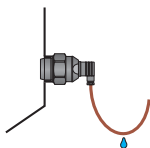

Fig. 4: Prevention to avoid intrusion of humidity
- If possible, insert the cable from above and let a **drain-ing loop** in order to avoid intrusion of humidity (Fig. 4).